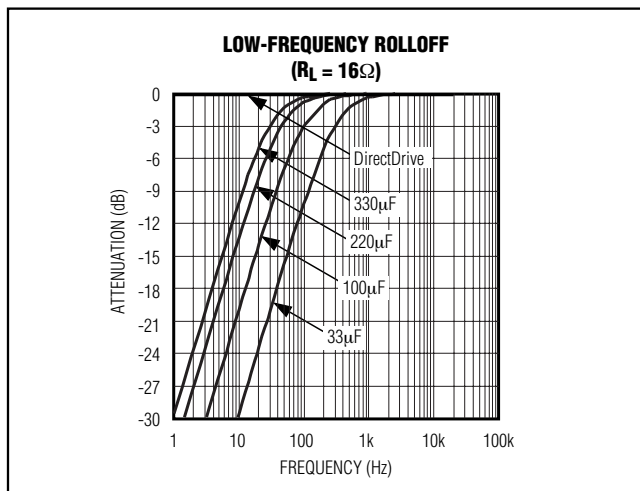

Figure 2. Low-Frequency Attenuation of Common DC-Blocking Capacitor Values
- The highpass filter is required by conventional single-ended, single-supply headphone amplifier to block the midrail DC component of the audio signal from the headphones. Depending on the -3dB point, the filter can attenuate low-frequency signals within the audio band. Larger values of C_{OUT} reduce the attenuation, but are physically larger, more expensive capacitors. Figure 2 shows the relationship between the size of C_{OUT} and the resulting low-frequency attenuation. Note the Vista's magnitude response specification calls for a -3dB point at 20Hz at the headphone jack. The -3dB point at 20Hz for a 32Ω headphone requires a 330μF blocking capacitor (Table 2).